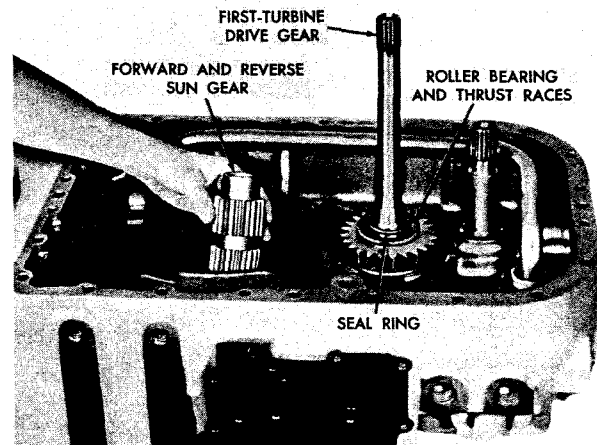

Fig. V-18. Removing (or installing) forward and reverse-range sun gear
(3) Remove the forward and reverse sun gear (fig. V-18).
(4) Remove the roller bearing and two thrust races (fig. V-18).
(5) Remove the first-turbine drive gear and seal ring (fig. V-18).